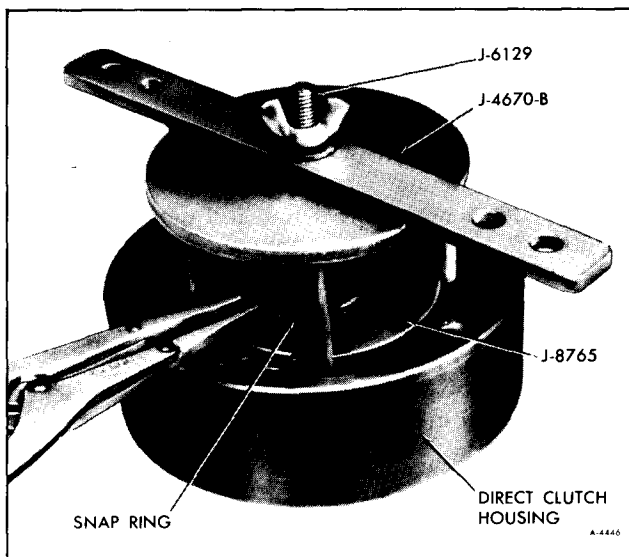

Figure 79—Removing Direct Clutch Snap Ring
5. Using Clutch Spring Compressor, J-4670, Rear Clutch Spring Compressor, J-6129, or an arbor press, and Adapter, J-21664, compress spring retainer and remove snap ring with Snap Ring Pliers, J-8059 or J-5586, Figure 79.
6. Using Clutch Spring Compressor, J-4670, Rear Clutch Spring Compressor, J-6129, or an arbor press, and Adapter, J-21664, compress spring retainer, being careful that retainer does not get caught in snap ring groove, and install snap ring with Snap Ring Pliers, J-8059 or J-5586, Figure 79. Remove tools.